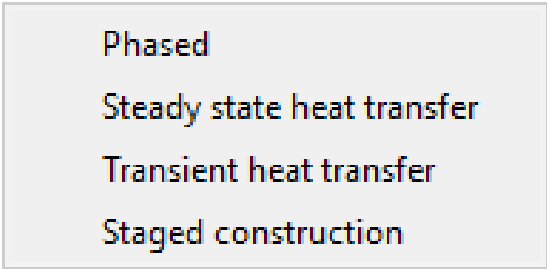
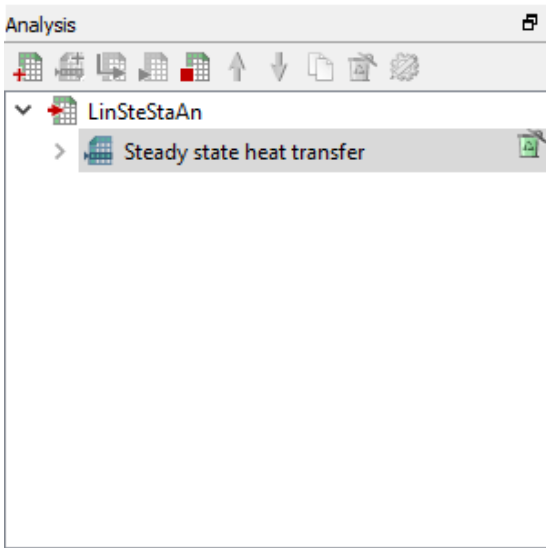

Figure 20: Add command
Figure 21: Analysis tree
- Analysis browser** → LinSteStaAn  → Add command → Steady state heat transfer [Fig. 20] [Fig. 21]